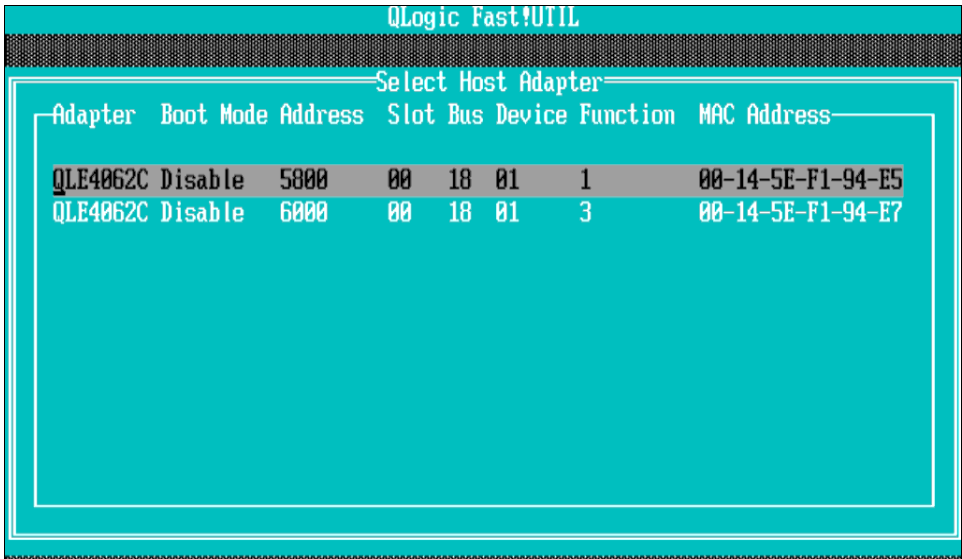

Figure 5-59 QLogic Fast!UTIL menu window
2. After pressing the Ctrl+Q keys, you enter the QLogic iSCSI Card BIOS utility. You see a window similar to Figure 5-59.